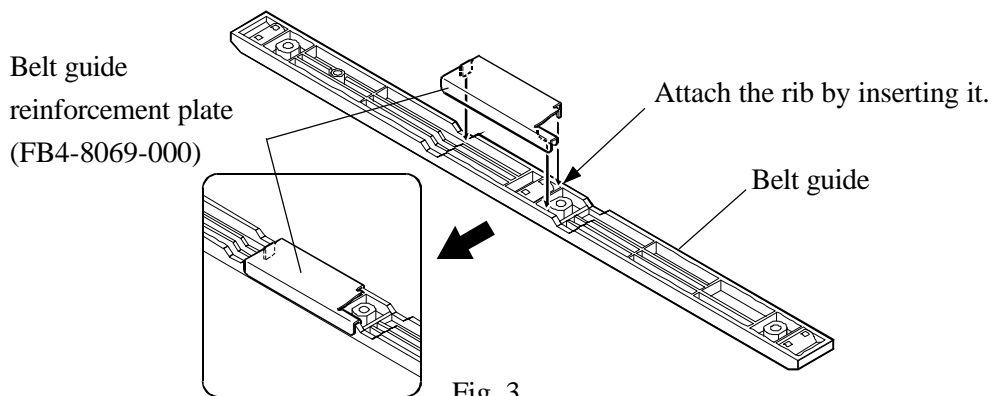

Fig. 3
3. Attach the Belt guide reinforcement plate (FB4-8069-000) as shown in Fig. 3.